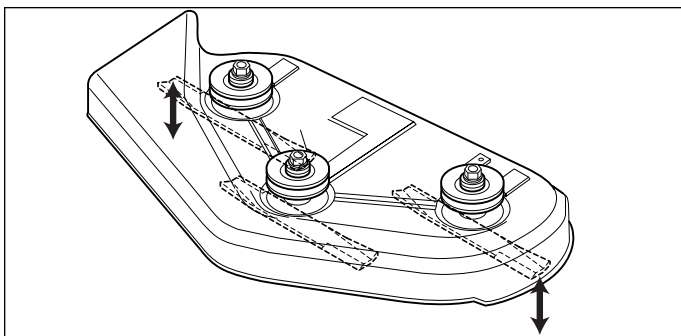

Figure 21. Orient Blades Side-to-Side
3. Set the cutting height to mid position. Arrange the outside mower blades so that they are pointing from side-to-side (Figure 21).